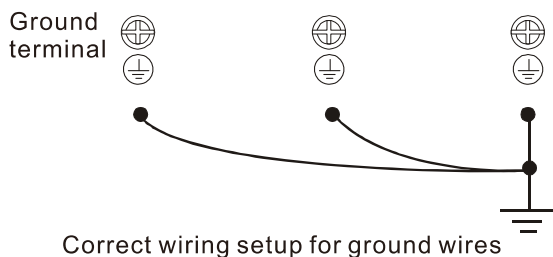
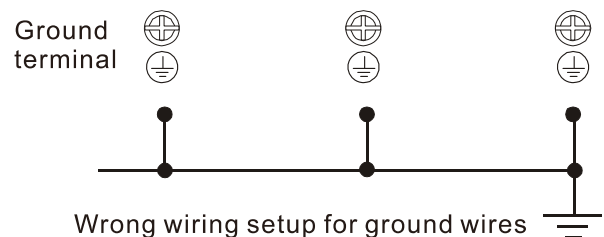

Figure 1-13
Figure 1-14
- ☑ When installing more drives, do not connect the grounds of the drives in series but connect each drive to ground. The following pictures (Figure 1-13 and Figure 1-14) show the correct and wrong ways to connect the grounds.